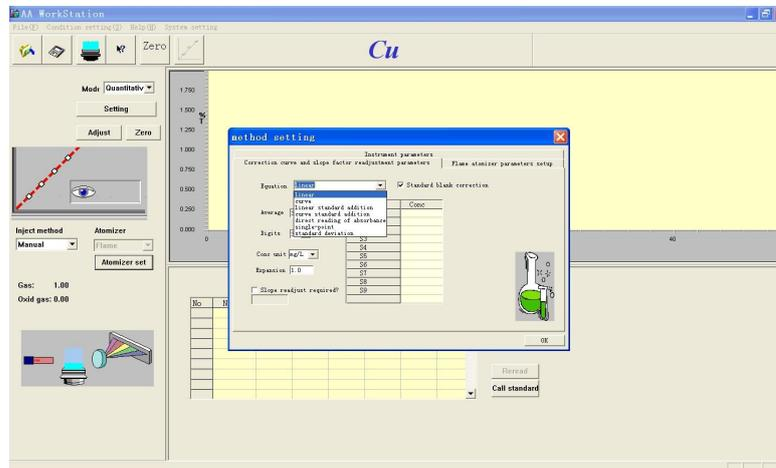

Figure 4-36
1. Equation selection: The pull-down list contains seven methods (linear method, curve correction, linear standard addition, curve standard addition, direct reading of absorbance, single-point method and standard deviation). Select the desired method from the list, as shown in Figure 4-36.